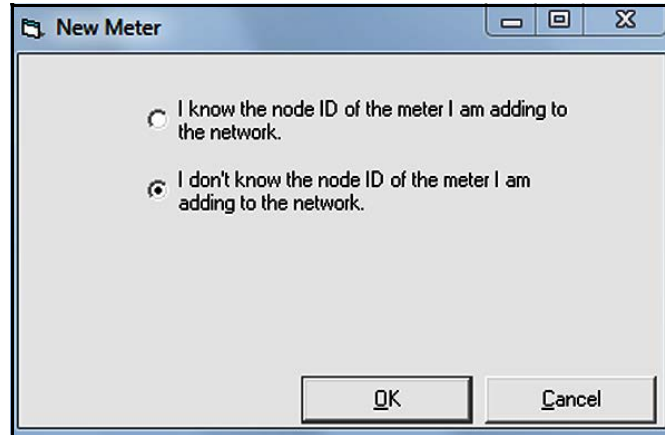

Figure 31: The Node ID Dialog Box
5. After selecting the “New” and “Meter” options, the dialog box shown in Figure 31 below opens. Select the “I don’t know the node ID of the meter I am adding to the network” radio button and then click on the **[OK]** button.
- a. At the Node ID dialog box (see *Figure 31* on page 24), select the “*I know the node ID of the meter I am adding to the network*” option and click on the **[OK]** button.